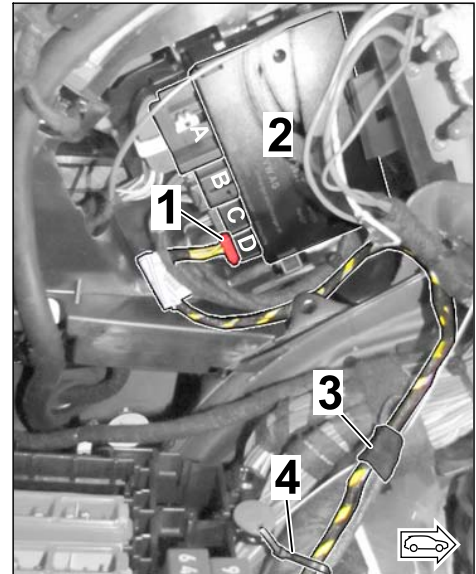

Figure 20
3.4.1 Insert connector D (10-pin) in slot D on the trailer hitch control unit (⇒ *Figure 20*).